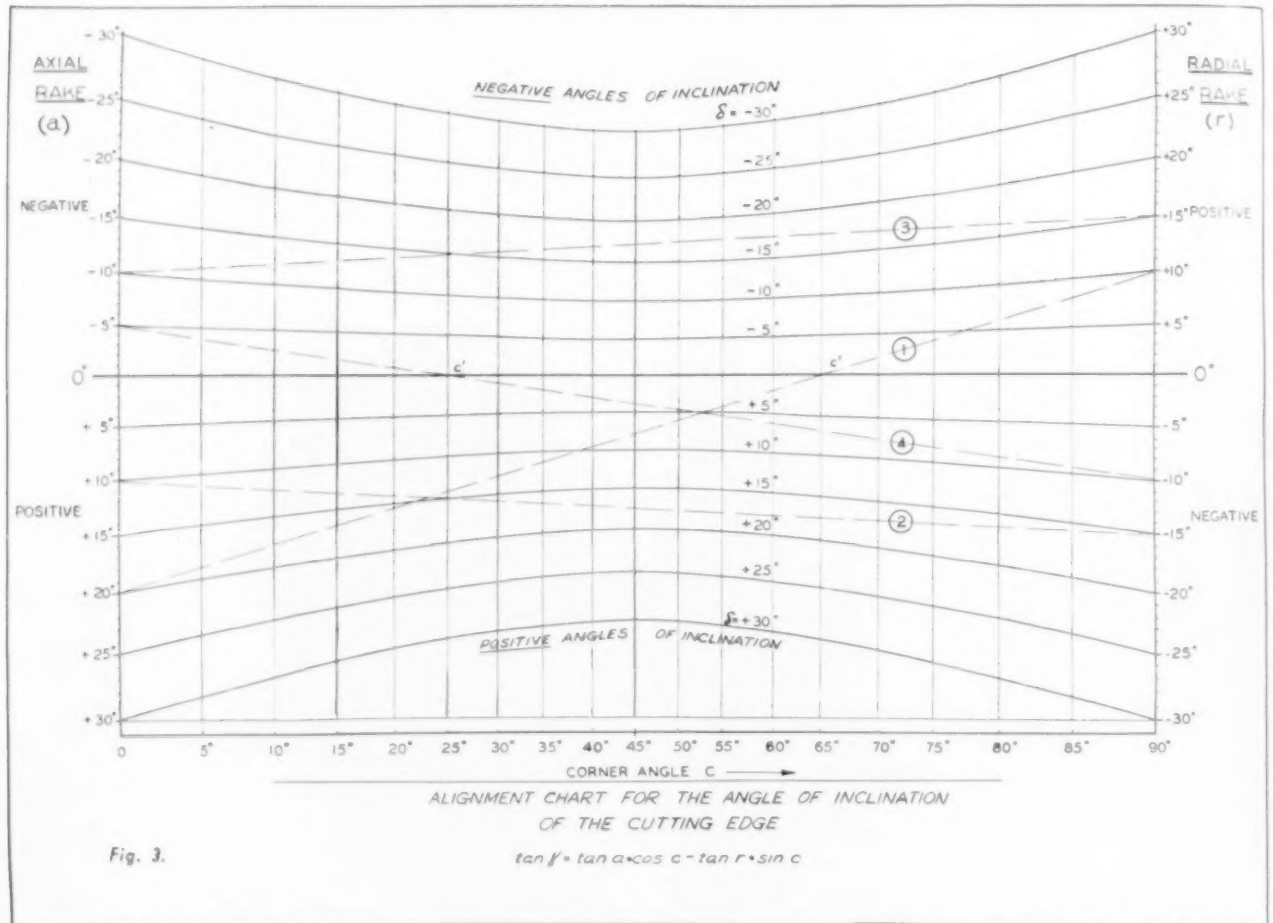

Fig. 3.
From the examples shown on Fig. 3 by dotted lines 1, 2, 3, and 4, the following general conclusions can be drawn:
Furthermore, for the case of a curved contour of the cutting edge, Fig. 3 indicates that some portions of the edge will have positive and some negative angles of inclination. The corner angle  $c$  for which the angle of inclination is zero indicates the location of the leading point on the cutting edge remote from point S. (See Fig. 2). Hence, in the case
Fig. 3 is the graphical representation of equation (1) permitting the reading of the value and variation of any one of the angles if the three others are given or varied. It is only necessary to draw on the chart a straight line connecting the given angles. If the angle of inclination is to be determined, the given value of the axial rake  $a$  should be connected by a straight line with the given value of the radial rake  $r$ , then the angle of inclination  $\delta$  can be read for any value of the corner angle  $c$  at the intersections of the straight line with the vertical "c" lines.